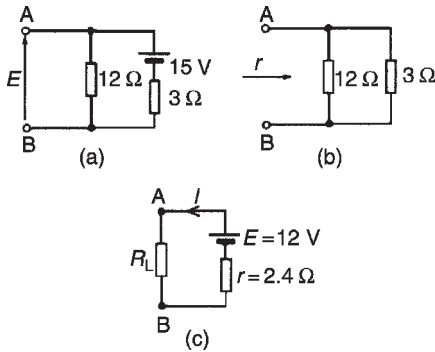

Figure 15.86
- (i) Resistance R_L is removed from the circuit as shown in Fig. 15.86(a)
- (iii) Removing the source of e.m.f. gives the circuit of Fig. 15.86(b), from which, resistance,
- (iv) The equivalent Thévenin's circuit supplying terminals AB is shown in Fig. 15.86(c), from which,